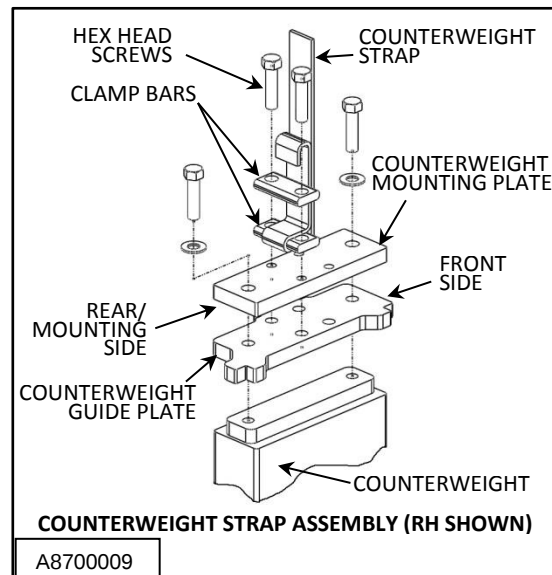

Figure 49
7. Loosen the hex head cap screws to release the clamp bars that secure the strap to the counterweight. (See Figure 49)